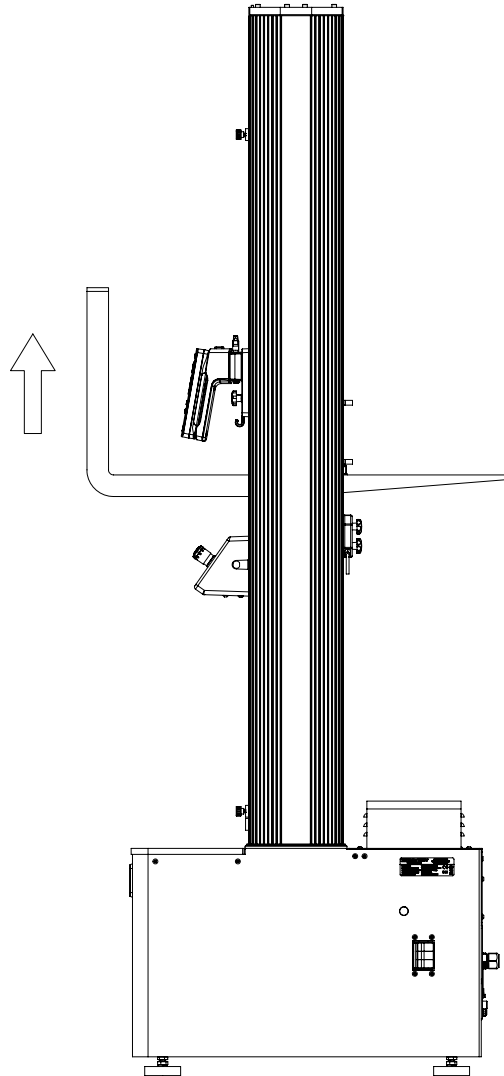

Figure 22. *Lifting the Frame from the Crosshead*
1. Using a forklift with padded forks or protective material around the crosshead, carefully insert the forks under the crosshead between the columns. See Figure 22 on page 75.